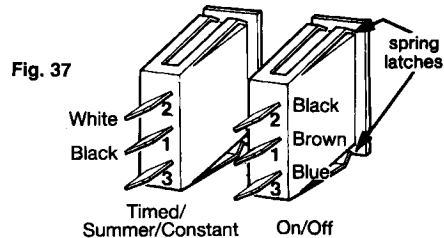

Fig. 37
Refer to fig. 37
- 8.18.29** To replace refer to fig 37 to ensure switch is in correct attitude and press into hole from the front until spring tabs latch. Refer to fig 37. for correct wiring details.